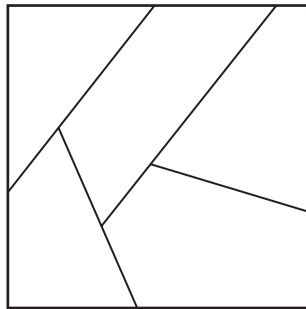

Fig. 7
- (b) Fig. 7 shows the puzzle pieces to be cut from one piece of acrylic.